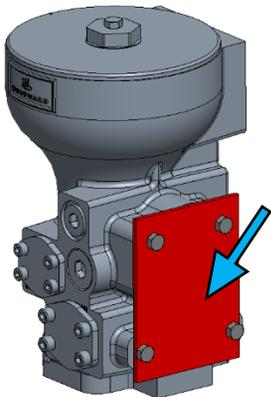

Figure 2-34. VariStroke Shipping Plate Removal
1. Remove the shipping plate by unscrewing all four bolts (use **3/4 in** open end wrench) (Figure 2-34).